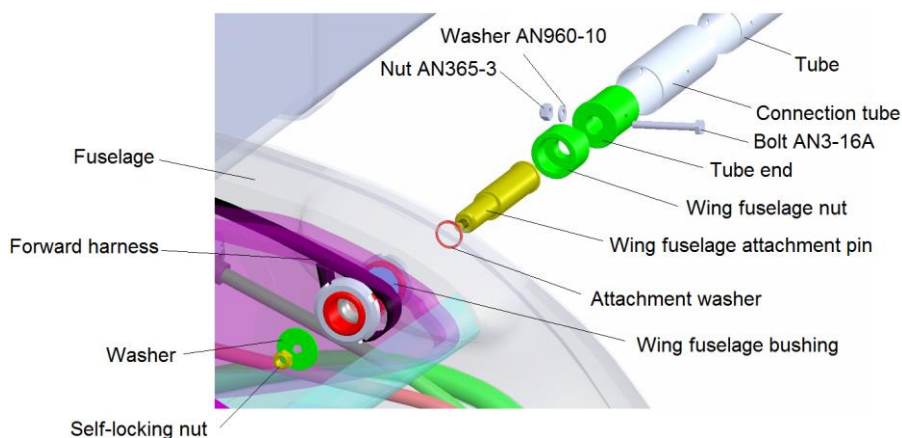

Fig. 57-10-7. Front attachment point.
1. Put the forward harness loop end in position between the wing and fuselage. Insert wing fuselage attachment pin into wing/fuselage bushing 3 with attachment washer in between the wing and the fuselage bushing as shown in figure 57-10-7.
4. Move connection tubes to align the holes as shown in Fig 57-10-7 with the forward tube and tube end fitting.